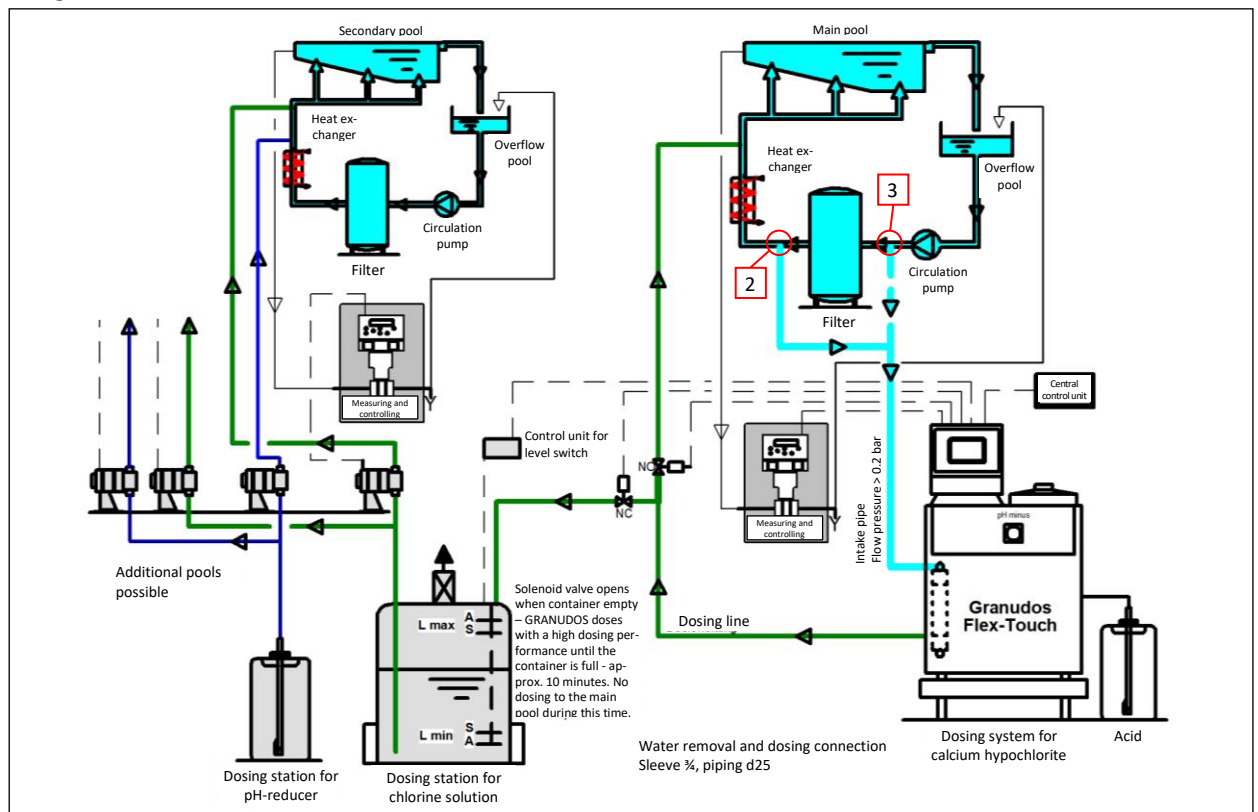
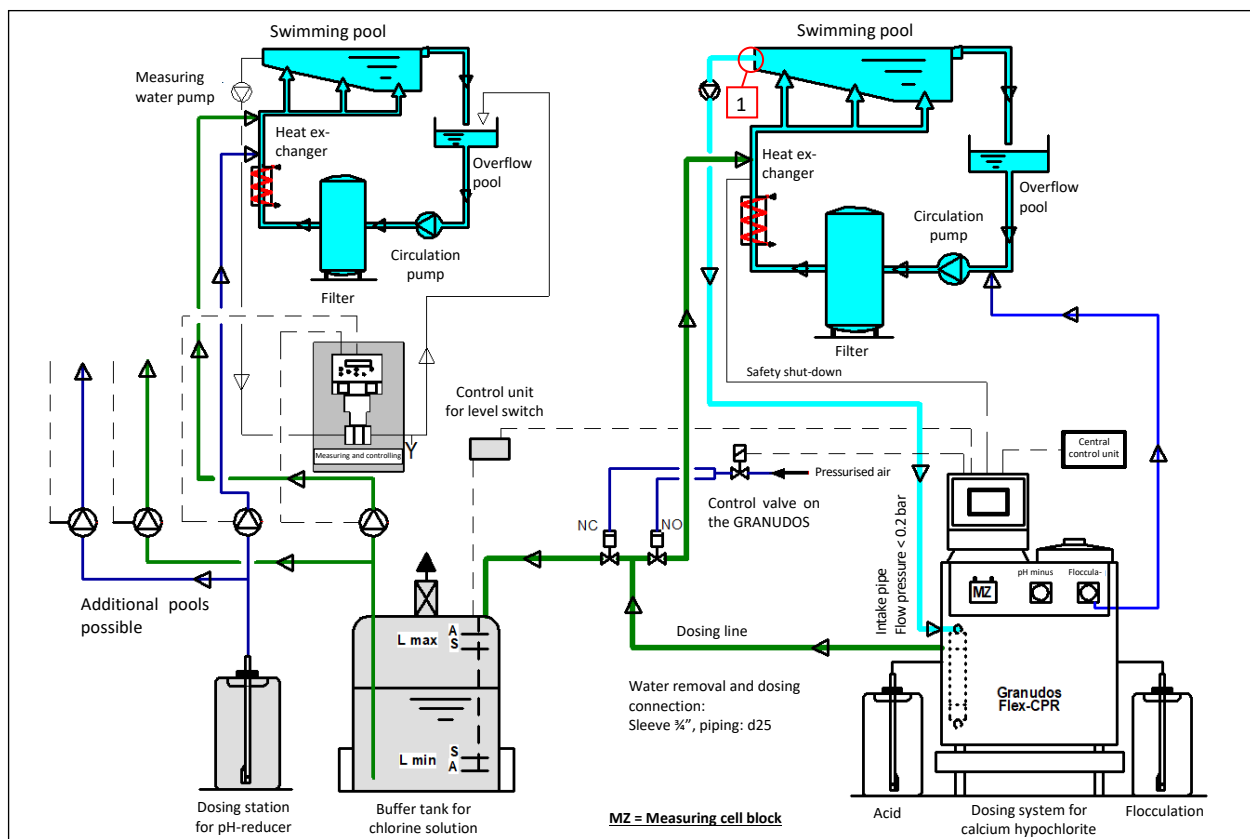

Figure 19: Flow diagram GRANUDOS Flex-Touch with buffer tank
Figure 21: Flow diagram GRANUDOS Flex-CPR Touch XL with buffer tank
- a) Connect the buffer tank to the dosing line for the chlorine solution. See flow diagrams *Figure 19* and **Figure 21**.